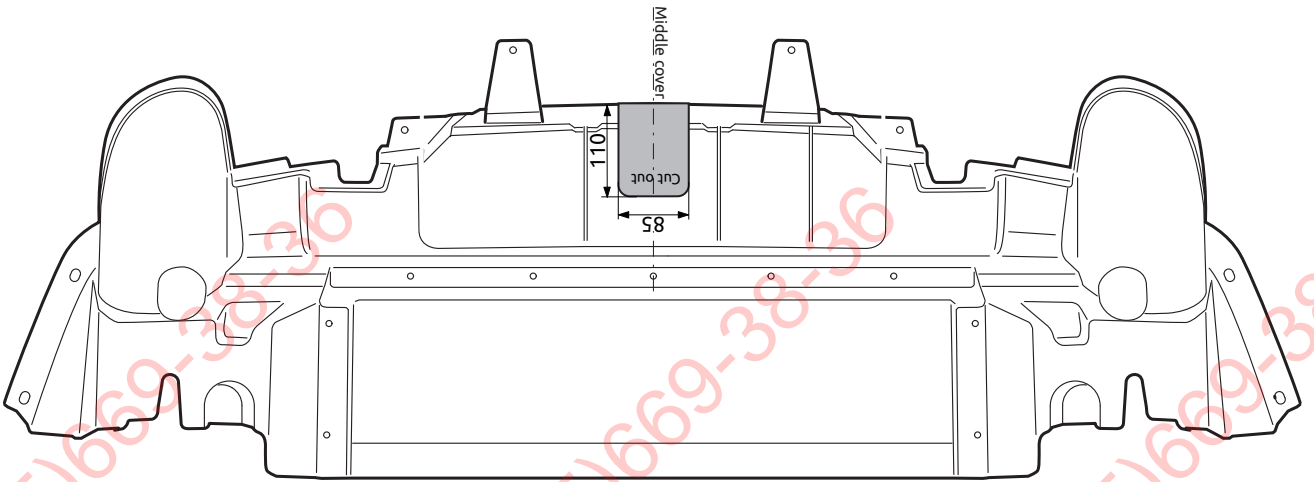

Fig. 4
12. Saw a portion out of the cover plate as shown in figure 4.